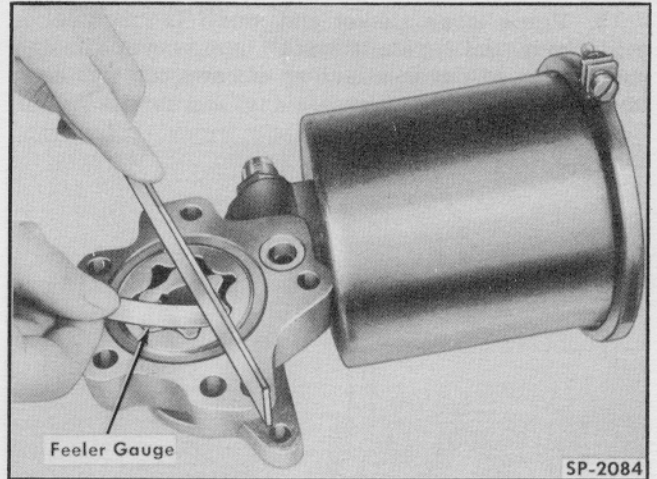

Fig. 18—Checking Rotor Side Clearance
3. Place a straight edge across pump body (Fig. 18) and use a feeler gauge to check side clearance of rotors. If clearance exceeds .0025 inch, replace pump body.